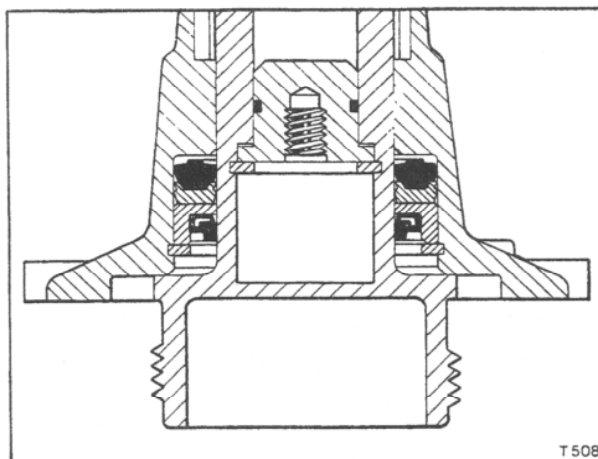

Fig. G32 Height control ram seals
1. Lubricate a new main seal with recommended brake fluid (see Chapter D) and insert it into position in the ram housing as shown in Figure G32.